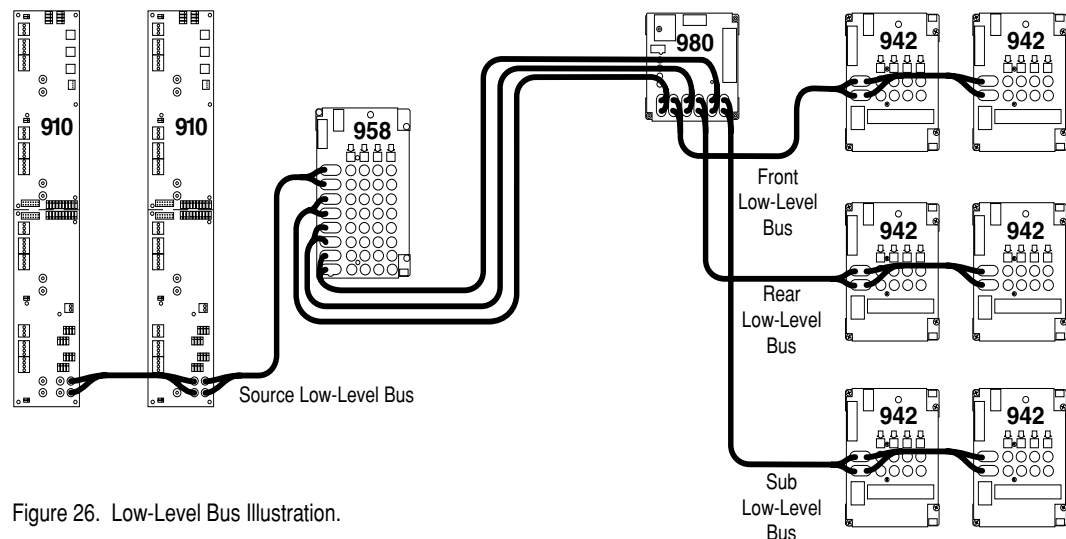

Figure 26. Low-Level Bus Illustration.
2. Connect all modules serving each pair of low-level channels in a given group, such as source outputs (910 or 922), front amp inputs or rear amp inputs (942).
- Connect the processor output bus to the 980 System Module input bus; connect the 980's output bus to the amplifier bus input. The 980 has inputs and outputs to feed processor output signals to front, rear, and sub amplifier groups (see Figure 26).